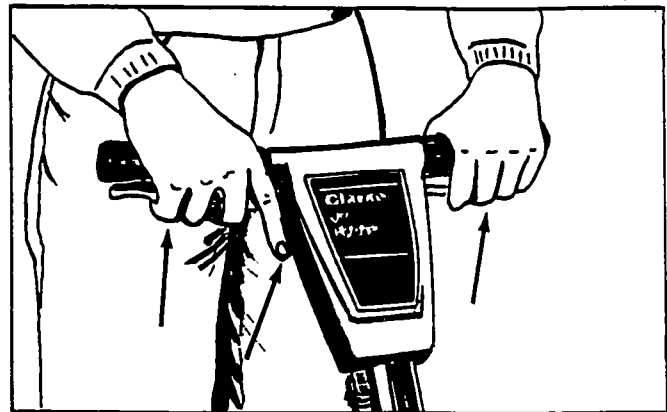

Figure 8
3. Push the interlock switch, and apply pressure to the levers. See figure 8.